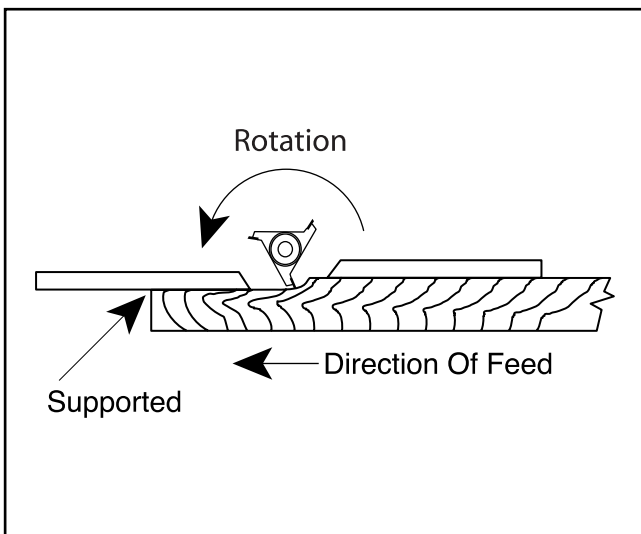

Figure 35. Fence adjusted to support workpiece.
6. Once the shaper is turned off and the cutter has come to a complete stop, adjust the out-feed fence to support the new profiled edge. **See Figure 35.**